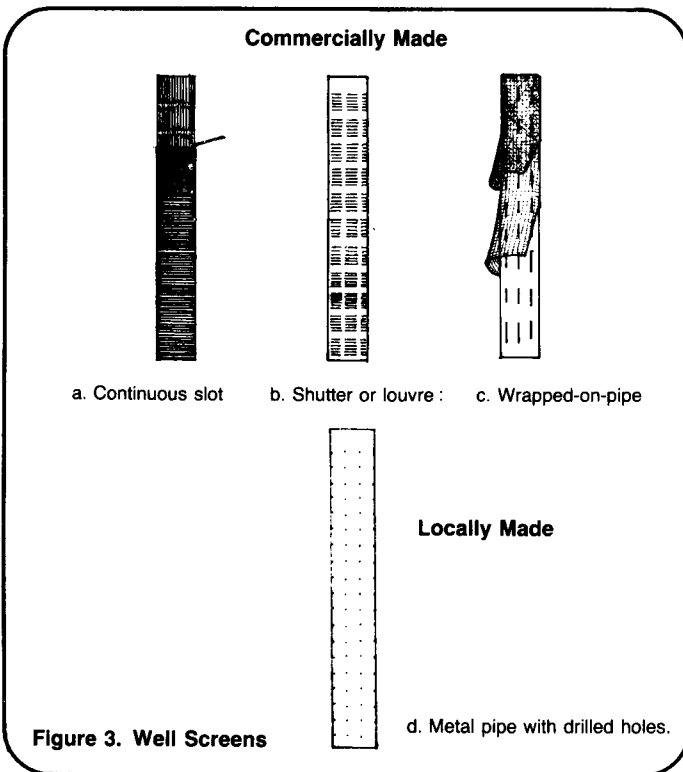

Figure 3. Well Screens
3. A design drawing of the well screen similar to Figure 3.